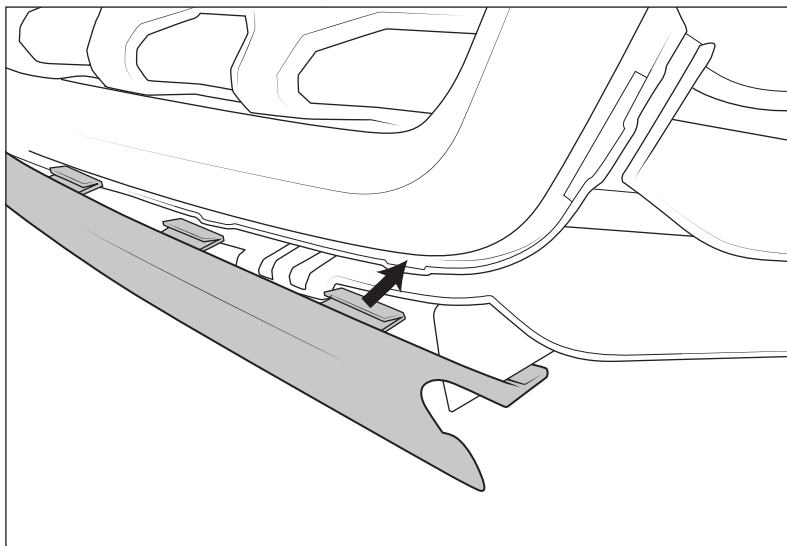

Figure 3
3. Install rubber Gap Filler by inserting tabs into the bottom of the grill working from the center outward (fig. 3).